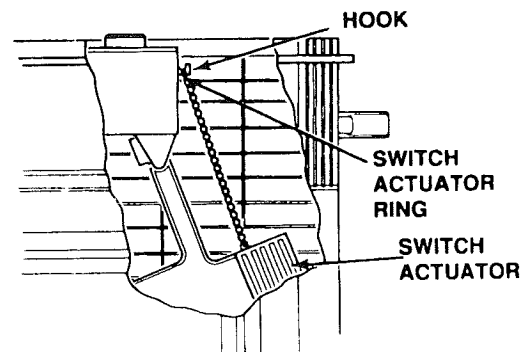

Figure 12
- a. Loop switch actuator ring around plastic hook located directly above the switch actuator. (Fig. 12)